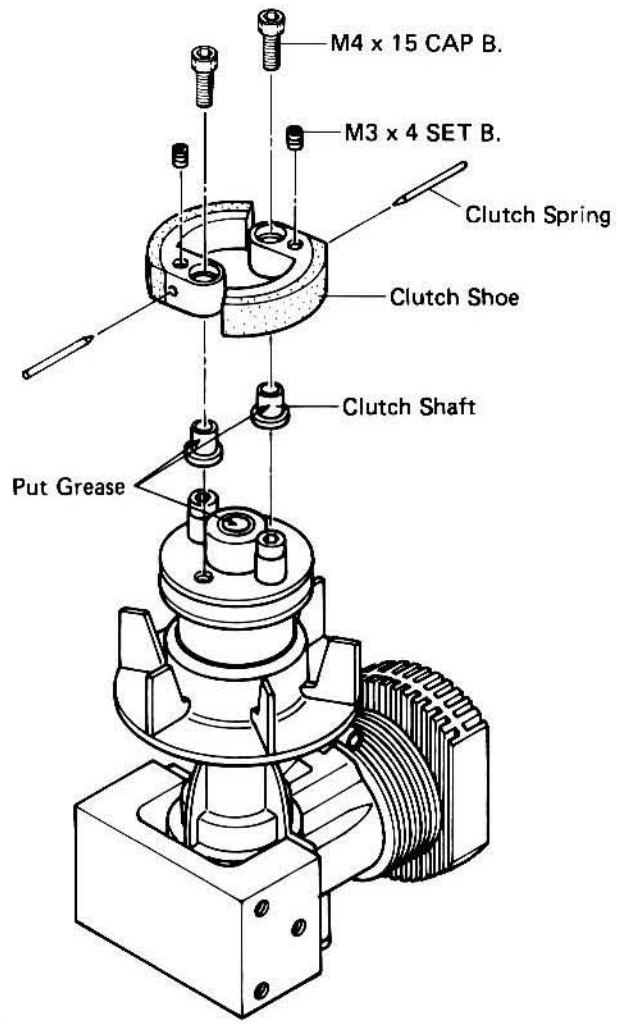

Fig. 7
- 6** Bolt the clutch shoes to the pulley. At this time put some grease to the clutch shafts and the needle bearing of the tip of pulley. See fig. 7.